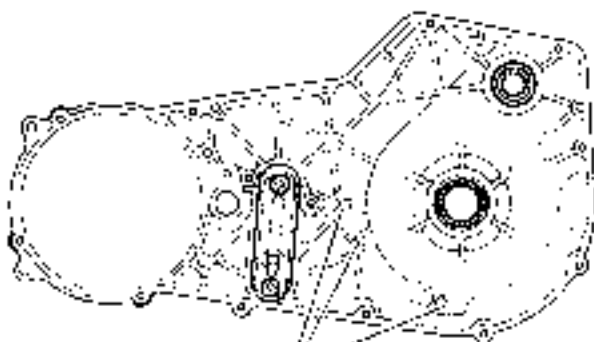

Figure 6-4. Primary-to-Transmission Mounting Bolts
6. See Figure 6-4. Bend the lockplate tabs back and remove primary-to-transmission mounting bolts.
4. See Figure 6-4. Tighten primary-to-the-transmission bolts to 17-21 ft-lbs (23.0-28.5 Nm) and bend locktabs into place.